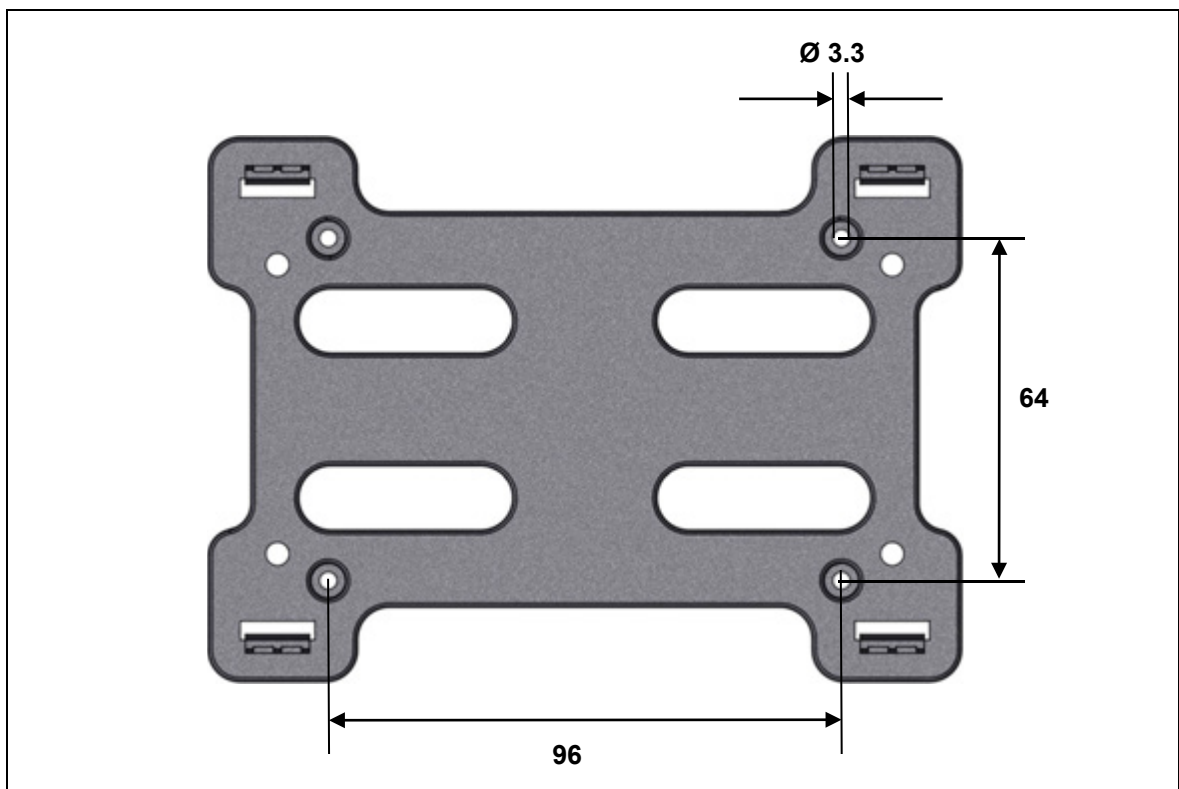
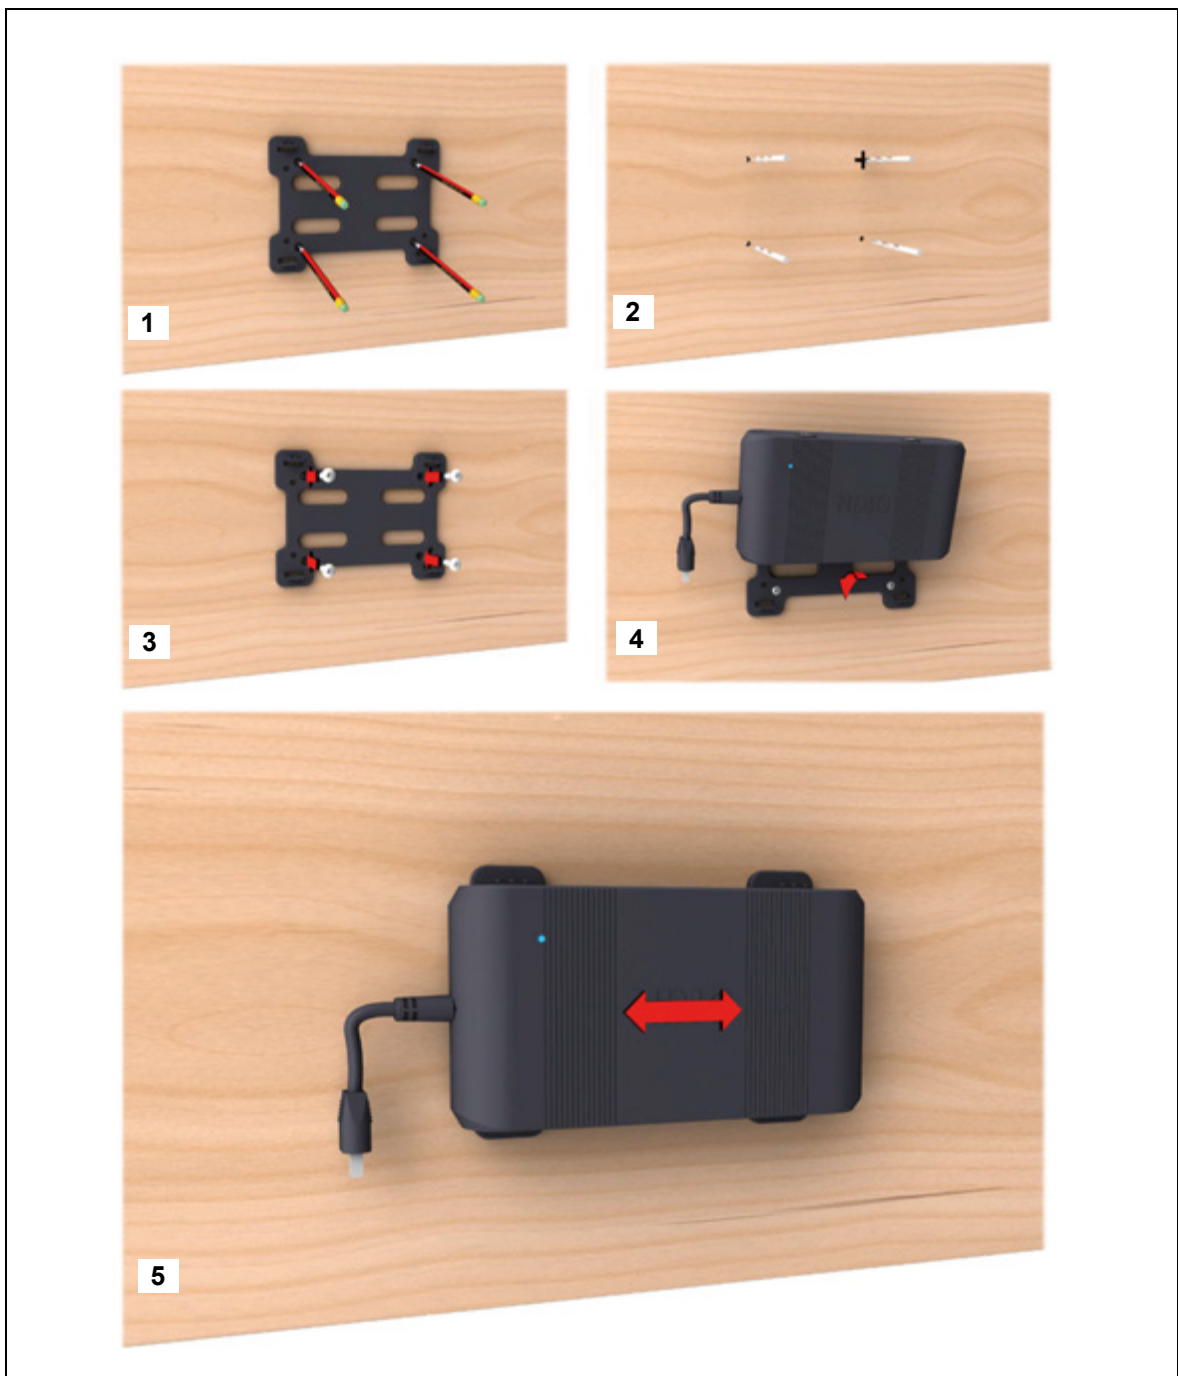

Figure 7 Drilling dimensions (example): Fastening points on the mounting plate (specifications in mm)
Figure 8 Mounting the mounting plate and attaching the CU165
- The drilling dimensions for the mounting plate, as shown in Figure 7, only illustrate an example and are not necessarily authoritative for all applications.
Screw the control unit onto the end product (as shown in Figure 8). Use the mounting holes shown in Figure 7 located on the control unit. Use screws meeting the requirements of DIN EN ISO 7049 with max. 2.9 mm diameter and of suitable length (5 mm plus the screw-in depth into the end product, screw head: 5.6 mm diameter).